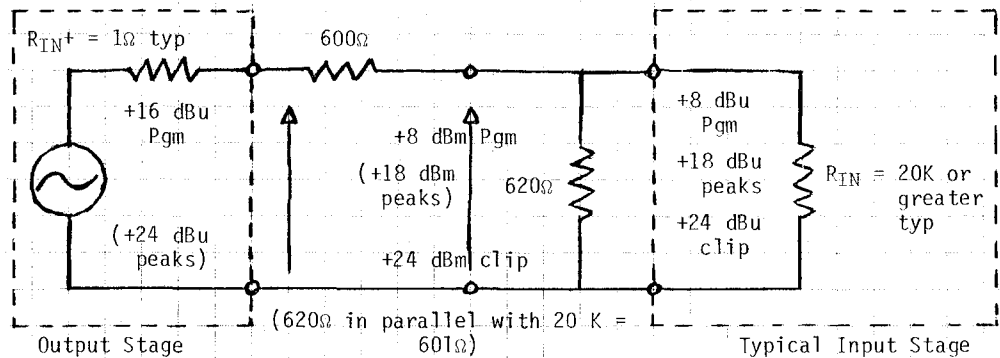
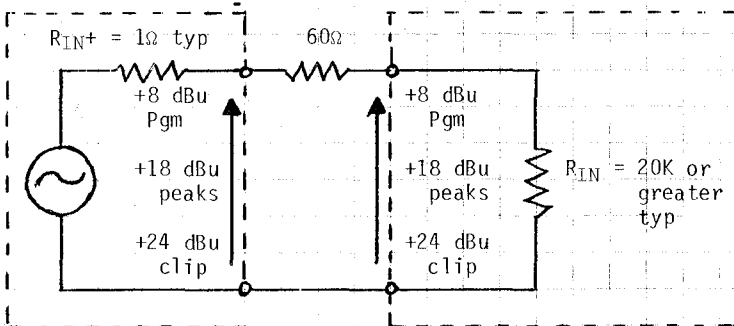
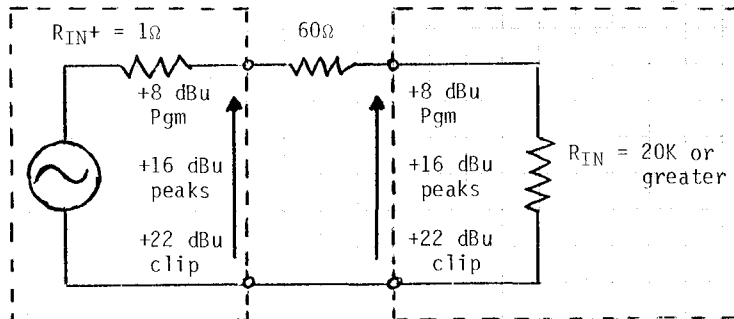

FIGURE 1: Power Matched System with VU Metering @ +8 dBm in 600Ω = +8 dBu
FIGURE 2: Constant Voltage System at +8 VR with VU Metering
FIGURE 3: Constant Voltage System with PPM Metering @ +8 dBu
3. ABC-TV seems to have standardized on constant voltage distribution using 60Ω source impedance and 20K or higher loading (no termination). This combined with the use of PPM metering has reduced the level capability requirements of consoles, distribution amplifiers, and other peripheral devices from +30 dBm for a power matched system (150Ω source, 150Ω termination) to only +22VR for the constant voltage system. See Figures 1 and 2.
In Figures 1, 2 and 3 a typical modern line level output stage drives a typical line level input. The typical 20KΩ input stage is "bridging"; that is, it has an impedance high enough that it causes less than 0.5 dB loss (in this example, less than 0.25 dB in Fig. 1 and less than .03 dB in Fig. 2 and 3).
Note that in Figure 1, 6 dB is wasted across the voltage divider made up of the two 600Ω resistances whereas in Figures 2 and 3 less than .05 dB is lost in the 60Ω/20KΩ divider! Hence, the voltage swing required in the output stage of Figure 2 is only one fourth that of Figure 1 to get the same signal at the input stage.
Figure 3 shows the same relationships for PPM metering, where ABC has discovered that only 8 dB difference need be allowed between peak level and reference level, allowing an additional 20% reduction in output stage voltage swing. As Hess of ABC points out, these two changes reduce the peak voltage requirements of the output stage from ±17.5 volts for Figure 2 and ±13.8 volts for Figure 3.
In circuit terms, this means a simpler, less expensive, lower power (and lower distortion) output stage operating from a ±15 power supply may be used in Figure 3; ±18 V DC is required in Figure 2; and ±30 V for Figure 1. While an output transformer having a turns ratio